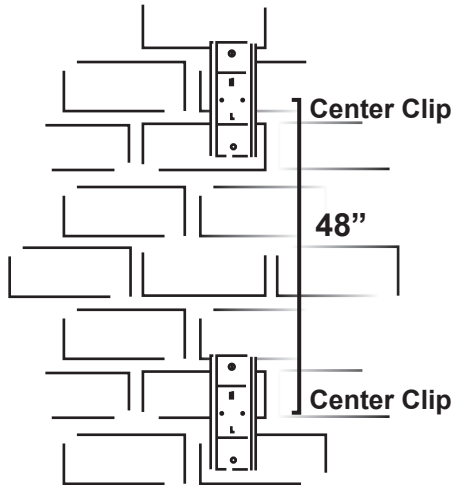

Figure 5.
- After these first and second clips are placed, space subsequent clips at 48" (4ft.) from center clip to center clip (Figure 5), except when measuring for fittings. (Section 6.0)